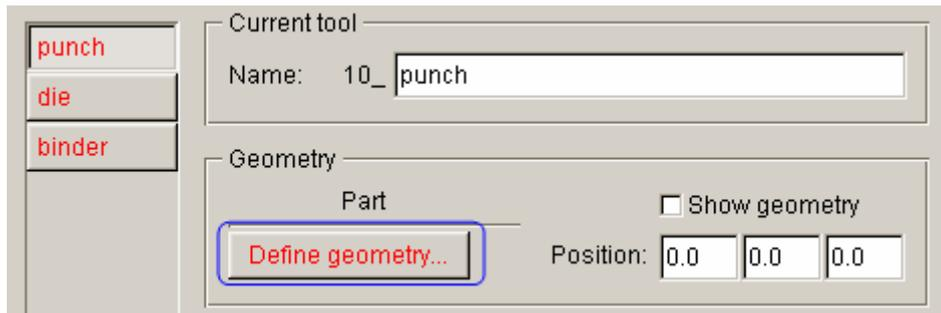

Figure 7.14 Punch definition
4. Click the **Define geometry...** button to assign a part as punch. See Figure 7.14.